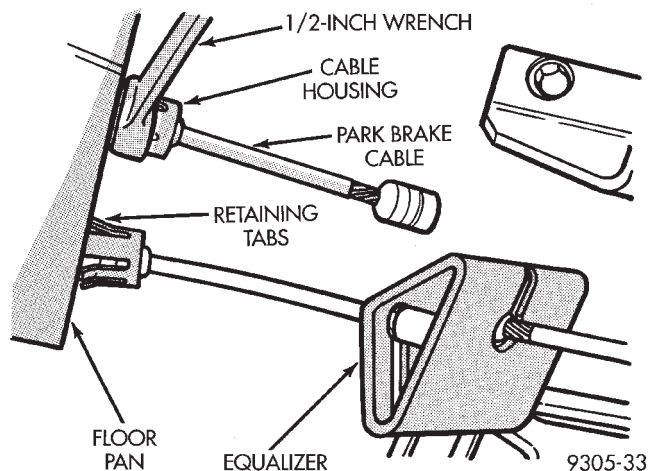

Fig. 5 Park Brake Cable Removal From Floor Pan
(10) Remove rear park brake cable from vehicle floor pan using the following procedure. Disconnect rear park brake cable requiring replacement from equalizer (Fig. 5). Slip the box end of a 1/2 inch over end of park brake cable (Fig. 5). This will compress